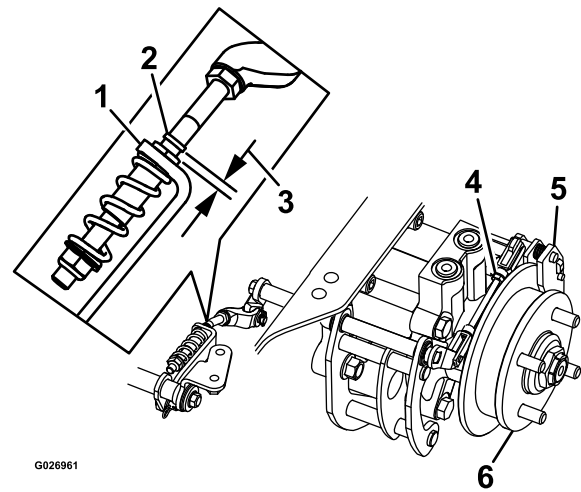

Figure 70
8. Check if there is a visible gap between the L-bracket and the linkage stop (Figure 70).